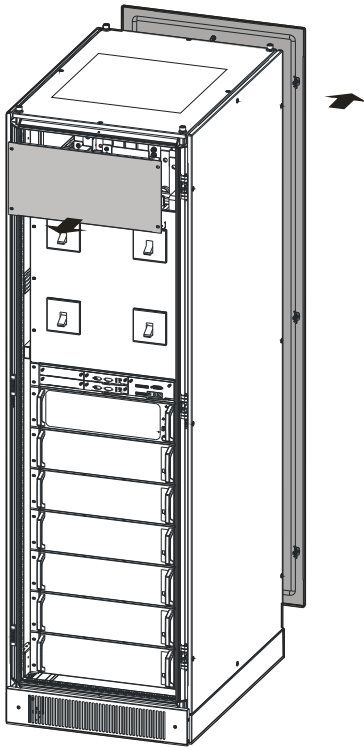

Figure3-24 Remove the sealing plate diagram
- Step 1 Open the front door and rear door of the cabinet, as shown in Figure3-24.